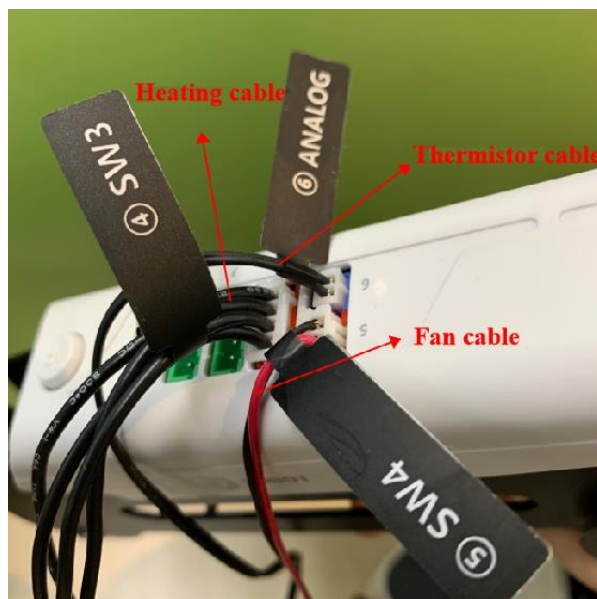

Figure 5.80 Connect hot end to the Forearm
**Step 5** Insert the heating cable to the interface **4** on the Forearm, the fan cable to the interface **5** and the thermistor cable to the interface **6**, as shown in Figure 5.80.